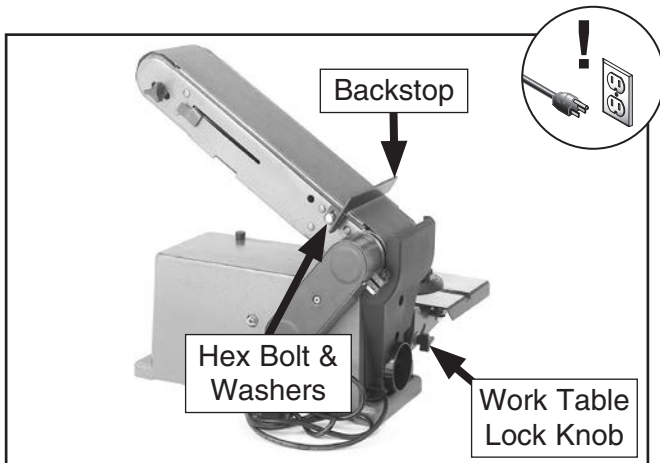

Figure 23. Backstop removal.
2. Remove hex bolt, flat washer, lock washer, and backstop from sanding bed (see **Figure 23**).
3. Loosen work table lock knob (see **Figure 23**) and remove lock knob, flat washer, and work table from sanding disc.